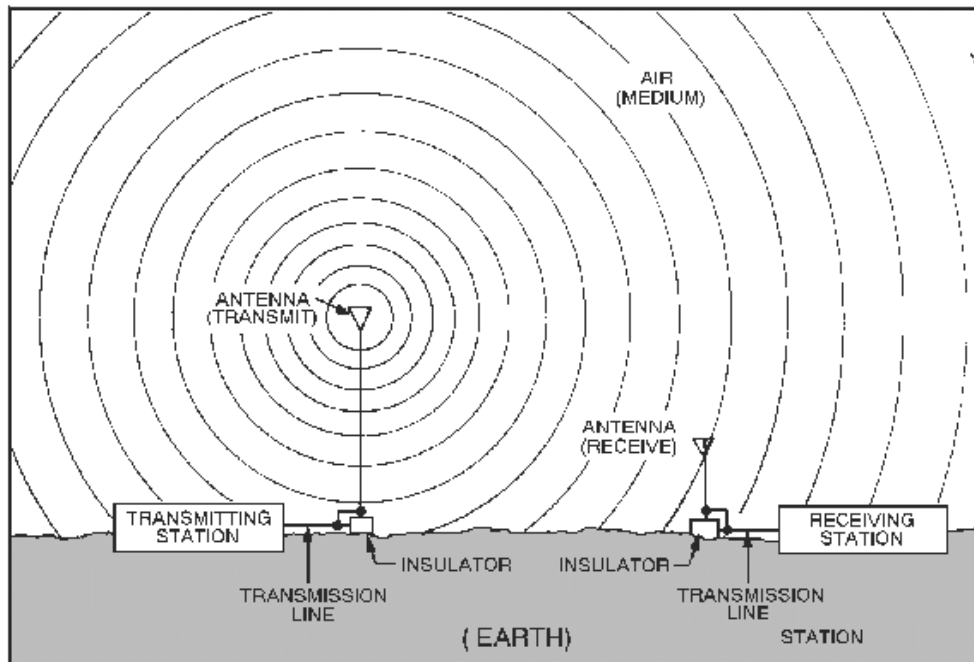

Figure 1-23.—Simple radio communication system.
The study of antennas and electromagnetic wave propagation is essential to a complete understanding of radio communication, radar, loran, and other electronic systems. Figure 1-23 shows a simple radio communication system. In the illustration, the transmitter is an electronic device that generates radio-frequency energy. The energy travels through a transmission line (we will discuss this in chapter 3) to an antenna. The antenna converts the energy into radio waves that radiate into space from the antenna at the speed of light. The radio waves travel through the atmosphere or space until they are either reflected by an object or absorbed. If another antenna is placed in the path of the radio waves, it absorbs part of the waves and converts them to energy. This energy travels through another transmission line and is fed to a receiver. From this example, you can see that the requirements for a simple communications system are (1) transmitting equipment, (2) transmission line, (3) transmitting antenna, (4) medium, (5) receiving antenna, and (6) receiving equipment.